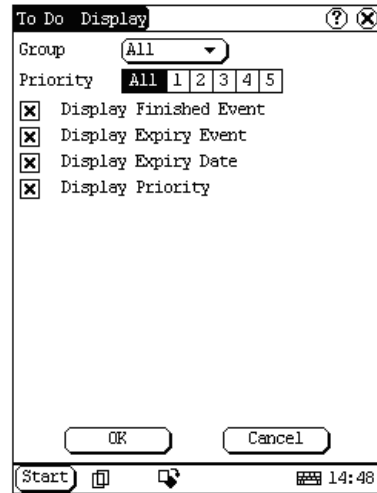

Figure 4-30
- 5) Click the box to the right of each function. When 'X' is displayed in the box, the function is selected. (See Figure 4-30)